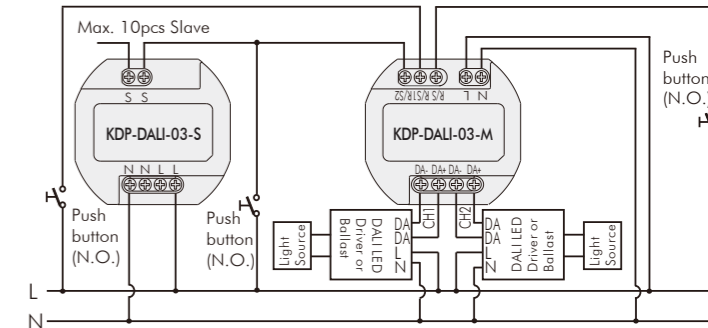
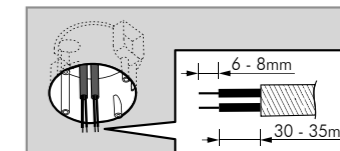
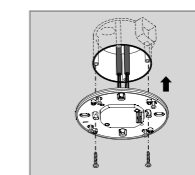
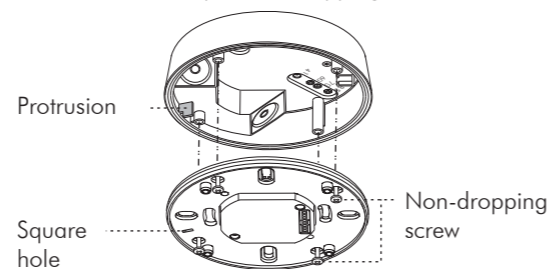

FIG.5
FIG.7
FIG.8
FIG.16
Master / Slave operation: Max. 10pcs KDP-DALI-03-S can be connected to R/S terminal of the master detector (See FIG.5). The maximum cable length between the first detector and the last detector must not exceed 100m, and each two detectors should be at least 1m.
3.4.1.2 Pull out AC power cables from European standard junction box (See FIG.7), then strip off 6 - 8mm of cable sheathing for wiring (See FIG.5).
3.4.1.3 Fix the power box into European standard junction box with 2pcs screws (See FIG.8).
3.4.2.3 Please refer to illustration of FIG.5 for correct wiring and then screw the tightly.
3.4.3.5 Refer to wiring diagrams for correct wiring connection (See FIG.5). There is a square hole in the fixing plate, when you put the fixing plate into the junction box, please fit the fillister to the junction box's protrusion (See FIG.16), then fix the detector head on the power box following FIG.8 and assemble them with the attached 4pcs non-dropping screws.